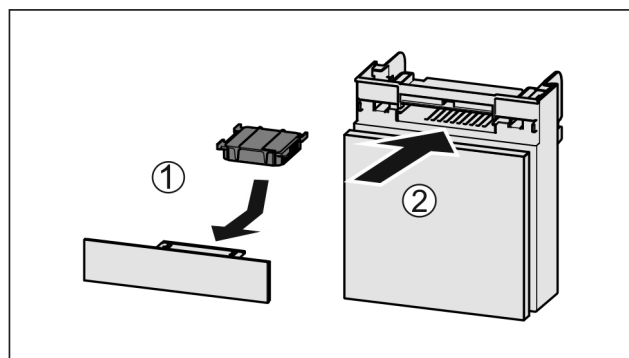

Fig. 87
- Insert the carbon filter as shown in the diagram Fig. 87 (1).
- ▶ Push the compartment in *Fig. 87 (2)*.